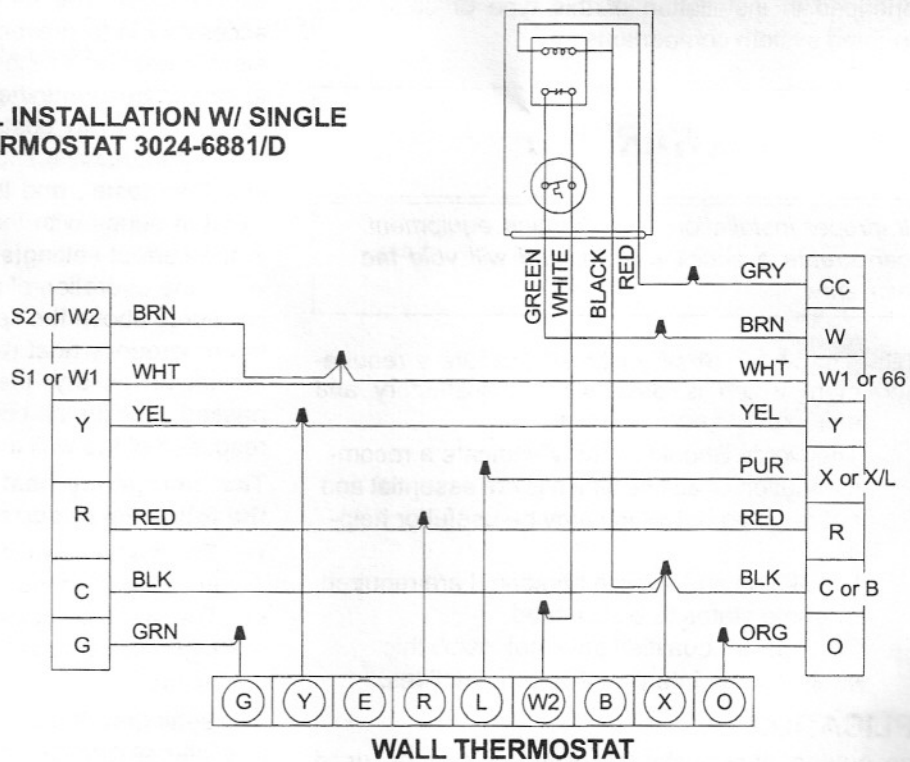

FIGURE 1 - WIRING CONNECTIONS FOR BRHS, DRHS, FRHS, BH(Q), DH(Q), OR FH WITH REVISION CODE OF "D" OR HIGHER
Use Figures 1 (single thermostat) or 2 (dual thermostat) for applications with BRHS, DRHS, FRHS, BH(Q), DH (Q), or BH(Q) model series with a revision code of "D" or higher at the end of the model number.